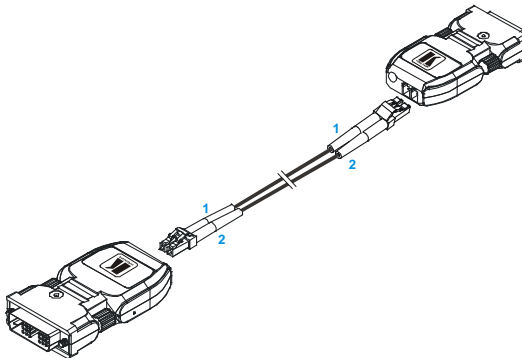

Figure 3: Connecting the Fiber Optic Cables
3. Connect the duplex LC fiber cables¹ to the **602T** and **602R** modules, one cable at a time, as illustrated in Figure 3.
² Do not use any intermediate cable or adapter between them, and connect cables 1 and 2 as indicated in Figure 3